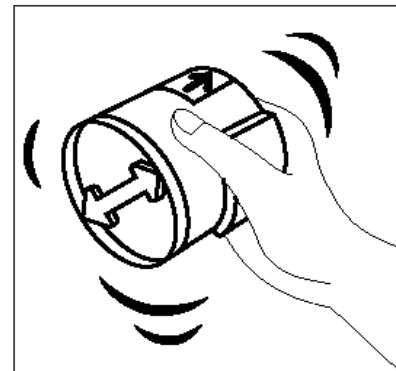

Figure 9: Shaking the Cartridge
- 6** Shake the cartridge from side to side, as illustrated in Figure 9.